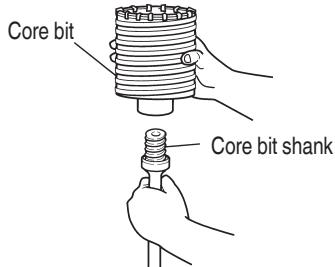

Fig. 17
## (1) Mount the core bit to the core bit shank. (Fig. 17)